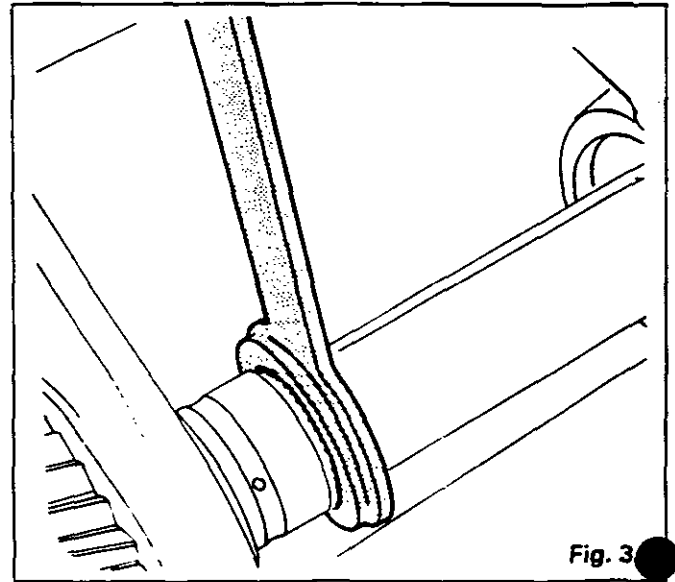
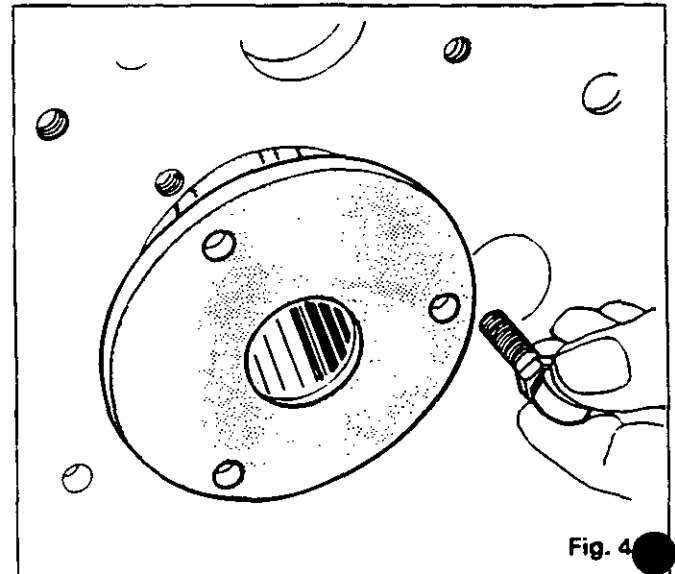
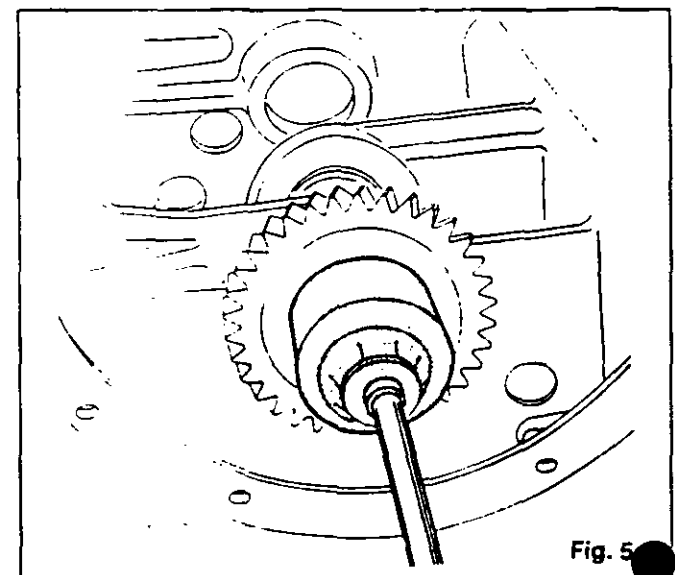

Fig. 3
Fig. 4
Fig. 5
Remove the bolts (1) (Fig. 5) as per Section 5 X01.
9. Remove the circlip (26).
10. Remove the 3rd and 4th gear synchromesh (23). Mark the direction of fitting.
11. Remove the synchromesh ring (21).
12. Remove the synchromesh cone (20) and the gear (18).
13. Position the retaining tool MF 458 (Fig. 3) and the locally manufactured holding sleeve for the mainshaft (69) (Fig. 4). (See part D).
14. Remove the oil feed pipe (71) and spring (72).
15. Unlock the nut (68) and loosen it using socket 3376805 M1 (Fig. 5).
16. Remove the input gear (67) and cone (1).
17. Remove the washer (6).
18. Remove tool MF 458 and the sleeve (Fig. 3 and 4).
20. From inside the housing and in the following order, remove: the 2nd gear (14) with bush (8), cone (13), 2nd gear synchromesh ring (12), 1st and 2nd synchromesh (11), cone (9), 1st gear synchromesh ring (10) and the 1st gear (7).
21. Withdraw the cups (16) and (2).
**Note: Check that the bush (8) is correctly positioned in the gear (14).**
34. Fit the retaining tool MF 458 and the locally made holding sleeve (Fig. 3 and 4).
35. Fit the washer (6).
36. Fit the cone (1) onto the gear (67).
37. Fit the gear (67) onto the shaft (69).
39. Shim the shaft. Remove tool MF 458 and the sleeve (Fig. 3 and 4).
45. Fit the retaining tool MF 458 and the locally manufactured holding sleeve (Fig. 3 and 4).
46. Unlock nut (68). Remove the gear (67).
47. Take out the cup (2).